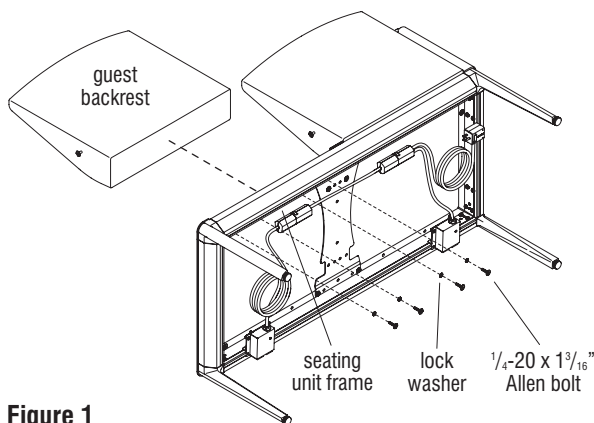

Figure 1
1. If the guest unit is near a wall or other structure that would prevent adequate access to the backrest, with the assistance of a second person, move the unit away from the structure, then carefully lay the guest unit onto its front, on a clean, protective surface (Figure 1).
2. With the bottom of the guest unit exposed, and with the assistance of a second person, have one person hold the backrest, while the second person removes the four $\frac{1}{4}$ -20 x $1\frac{3}{16}$ " Allen bolts and lock washers securing the guest backrest using a $\frac{5}{32}$ " Allen drive bit. The backrest will begin to tilt down as soon as the last bolt is loosened. Set the bolts and washers aside to be reinstalled in a later step (Figure 1 & Detail A).
3. Remove the lounge backrest from the seating unit frame. Set the removed backrest out of the way for the backrest replacement process (Figure 1).
1. With the assistance of a second person, have one person position the replacement guest backrest into the original location on top of the seating unit frame (Figure 1).
2. With the bottom of the guest unit exposed, have the second person align the mounting holes on the replacement guest backrest with the seating unit frame mounting holes and secure using the four previously removed $\frac{1}{4}$ -20 x $1\frac{3}{16}$ " Allen bolts and lock washers using a $\frac{5}{32}$ " Allen drive bit (Figure 1 & Detail A).